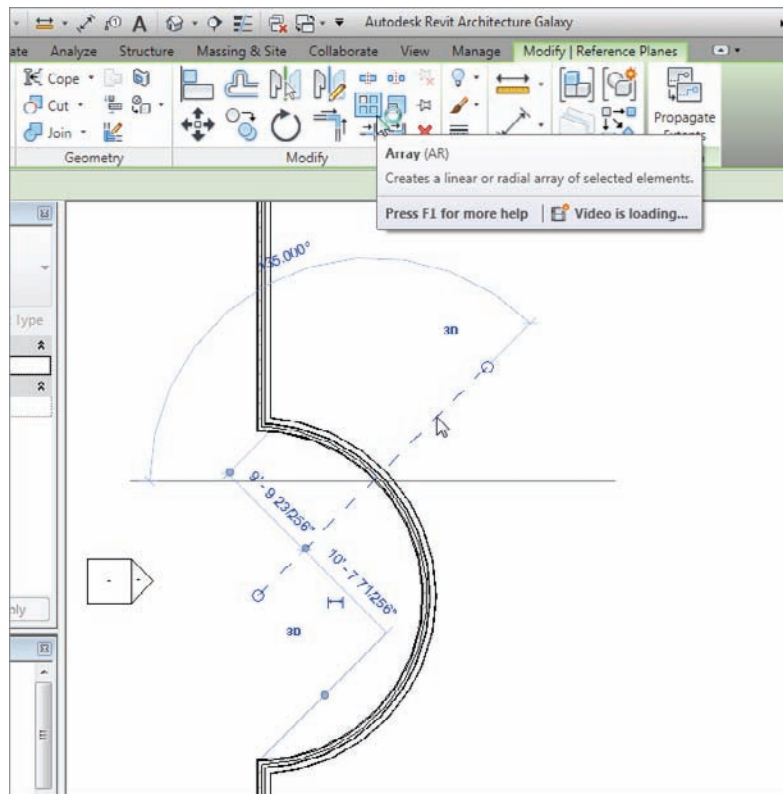

FIGURE 4.11 Select the item to be arrayed first, and then click the Array button on the Modify | Reference Planes tab.
1. Select the 45-degree reference plane, as shown in Figure 4.11.
2. On the Modify | Reference Planes tab, select the Array button, also shown in Figure 4.11.